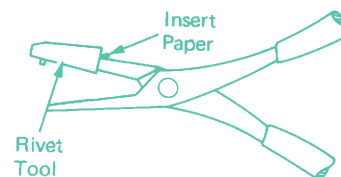

Figure 4
4. If rivet heads remain in arms, install rivet tool on one side of duckbill pliers and punch rivet out. A piece of paper may be placed inside the rivet tool to hold tool on duckbills (Fig. 4).